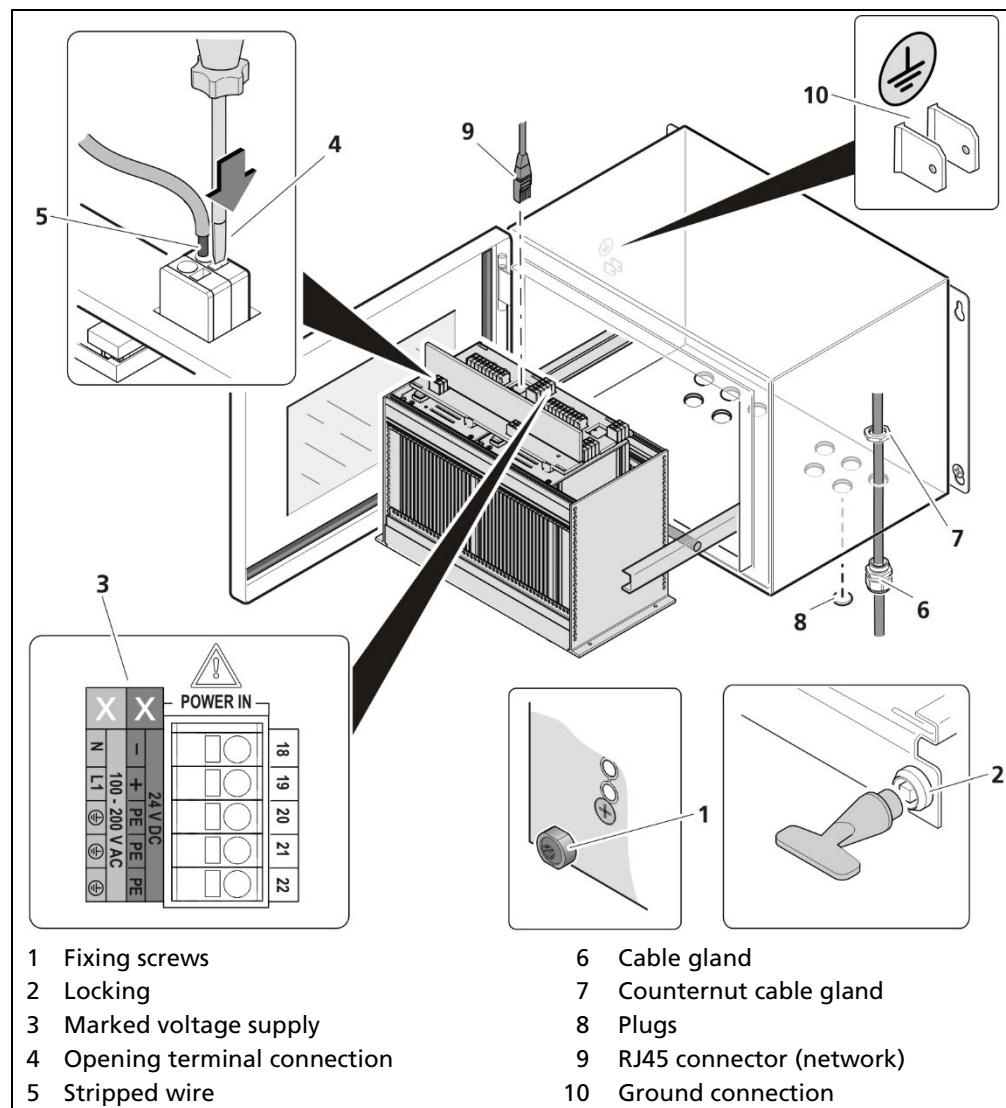
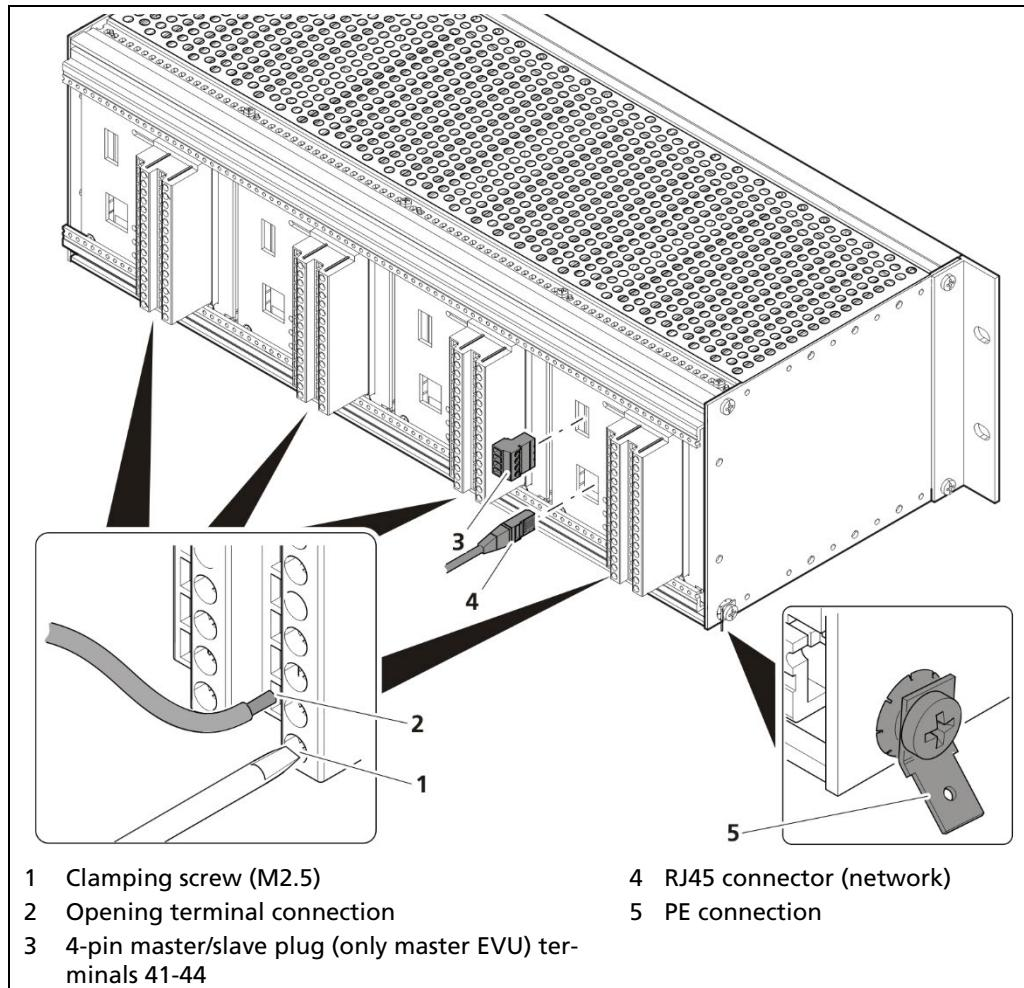

Fig. 18 Electrical connection in the wall housing (Example: master-master)
Fig. 20 Electrical connection in the 19" component rack (Ex.: 4x Master)
1. Make sure that the locking bolts (Fig. 18, item 1) of all modules are tightened in order to prevent slipping.
2. Loosen the lock (Fig. 18, item 2) using the supplied square key and pull the subrack out.
4. Run the cables through the cable glands (Fig. 18, item 6) through the openings of the wall housing and through the counternut cable glands (Fig. 18, item 7).
5. Screw the the cable glands (Fig. 18, item 6) with the counternut cable glands (Fig. 18, item 7).
Apply the voltage of the specified and marked (Fig. 18, item 3) range only!
7. Open the terminal connection (Fig. 18, item 4) with an operating tool (slotted screwdriver) and insert the stripped wire (min. 8 mm) (Fig. 20, item 5). The terminal connection closes by pulling out the operating tool. The terminal connections are designed for the flexible wires:
8. Plug the network plug into the RJ45 socket (Fig. 18, item 9) (optional).
9. Check the correct connection of the ground connection (Fig. 18, item 10).
10. Tighten all cable glands (Fig. 18, item 6) to ensure optimal sealing and tension relief until the gasket insert closes between screw down nut and cable.
3. Open the clamping screw (Fig. 20, item 1) and insert the stripped wire (min. 8 mm).
6. Plug the network plug into the RJ45 socket (Fig. 20, item 4) (optional).
7. Check the correct connection of the PE conductor (Fig. 20, item 5).